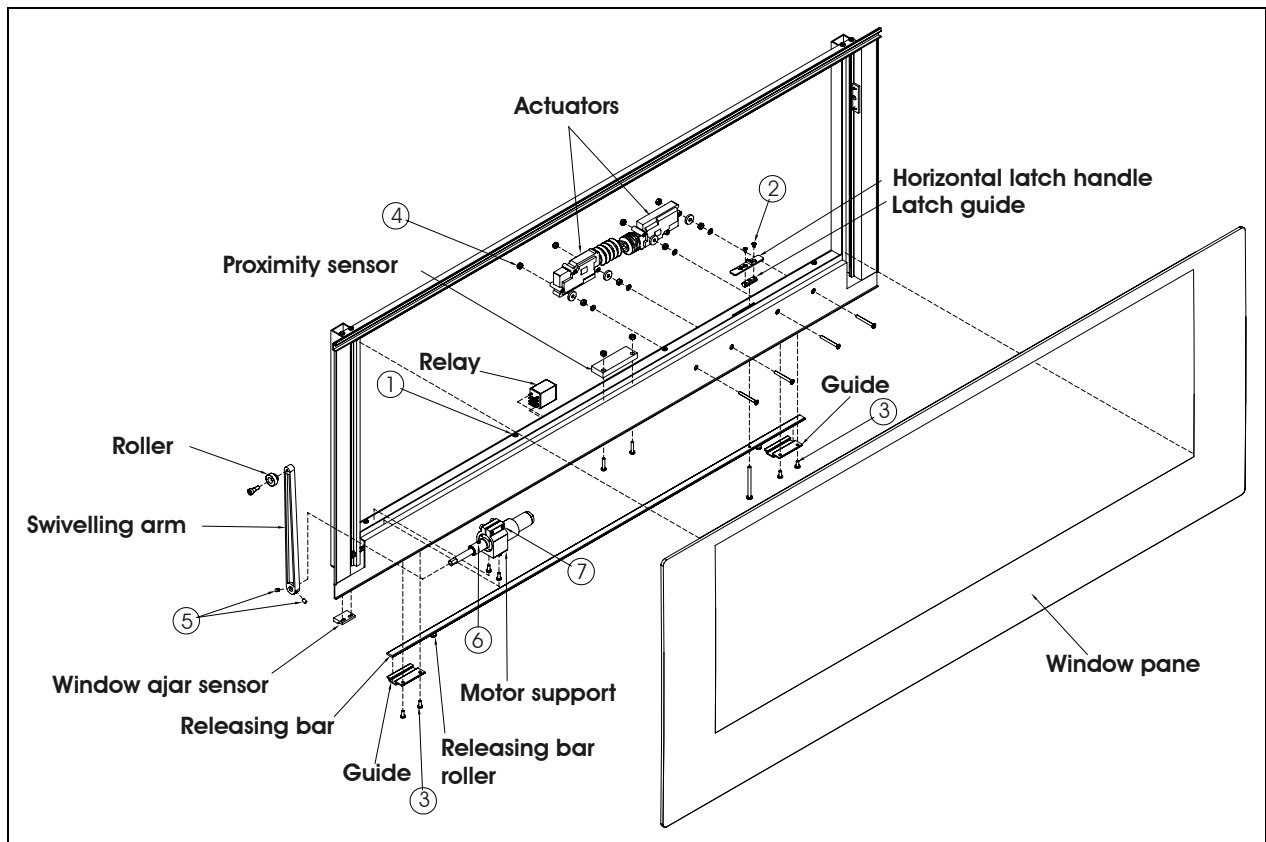

FIGURE 20: ELECTRIC AWNING WINDOW EXPLODED VIEW (SASH)
4. Loosen the set screws #5 (figure 20) (rotate the arm to get to the second set screw) and disengage the swiveling arm from the motor shaft extension.